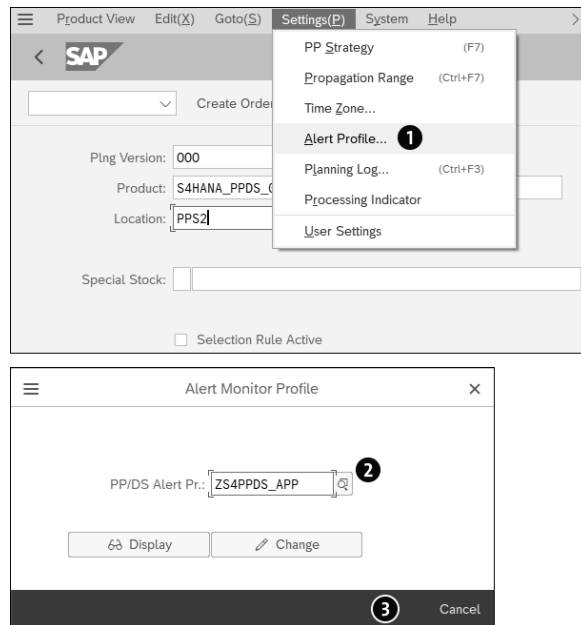

Figure 7.14 Changing the Alert Profile in the Product View
In the product view (Transaction /SAPAPO/RRP3), the alert profile can be assigned from the initial screen of the transaction, as shown in Figure 7.14, by choosing **Settings • Alert Profile** ❶. Enter the **PP/DS Alert Pr.** name ❷, and click on the **Continue** ❸ button.